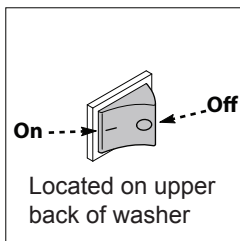

Fig. 12
- Make sure the “ON/OFF” switch is in the “OFF” position. The power switch has international symbols for ‘on’ and ‘off’: On (–) Off (O), (Fig. 12).